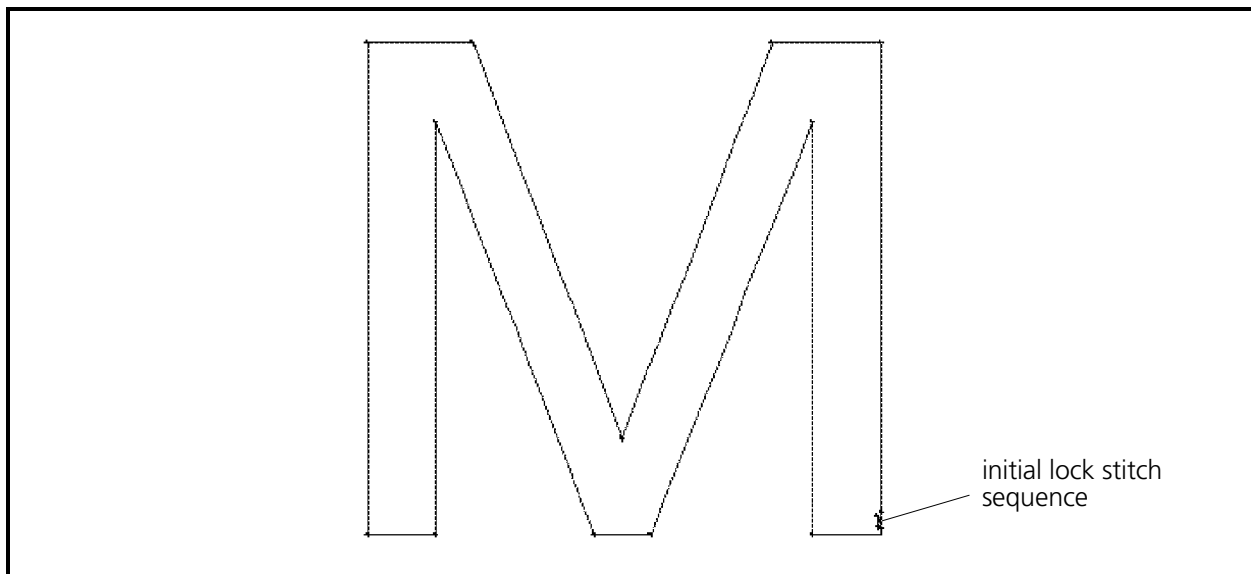

Figure 3-13
Lock stitches are used to keep the beginning and end of a digitized section from coming unraveled between color changes or with trims and before and after a needle up. Generate lock stitches using 3 or 4 Mk1s in a back and forth zig zag motion. In our example put the lock stitch on the outside edge of the letter **M** just up from the Mk1 establishing the start point. See the Figure 3-13 for an indication of where you will be generating the lock stitches in the following steps.
1. We will begin the outline from the last Mk1 of the initial lock stitch sequence which you entered at the bottom right corner of the right leg of the letter **M** (see Figure 3-13).